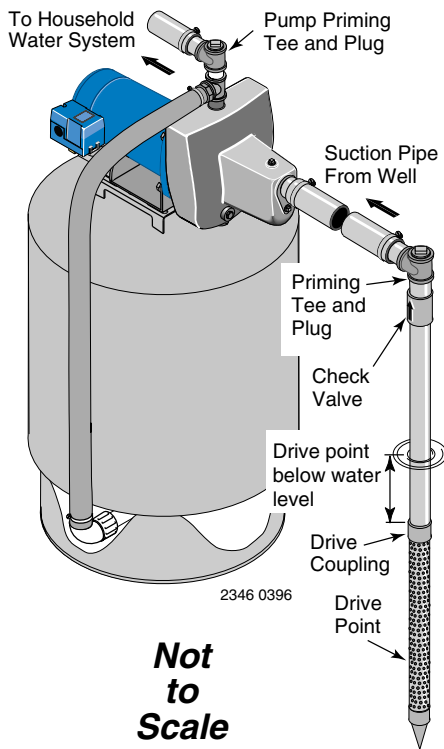

Figure 1: Driven Point Installation
WELL POINT (DRIVEN POINT) INSTALLATION (FIGURE 1)
Step 3. Use the fewest possible fittings (especially elbows) when connecting the pipe from the well point to the pump suction port. The suction pipe should be at least as large as the suction port on the pump (include a check valve if your pump is not equipped with one – see Figure 1). Support the pipe so that there are no dips or sags in the pipe, so it doesn’t strain the pump body, and so that it slopes slightly upward from the well to the pump (high spots can cause air pockets which can air lock the pump). Seal the suction pipe joints with teflon tape or a teflon based pipe joint compound. Joints must be air- and water-tight. *If the suction pipe can suck air, the pump cannot pull water from the well.* If one well point does not supply enough water, consider connecting two or three well points to one suction pipe.